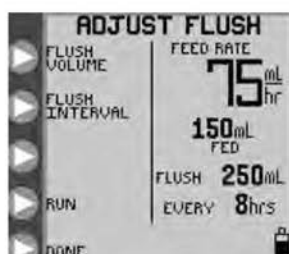
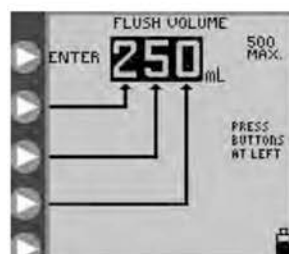
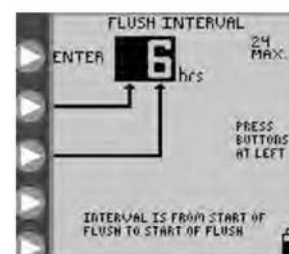

Figure 12A. **ADJUST FLUSH** menu, continuous mode.
Figure 12B. Setting the Flush Volume.
Figure 12C. Setting the Flush Time Interval.
For **CONTINUOUS** feeding mode with a feed & flush set loaded, the opening menu will appear as shown in Figure 7B. Press ► **ADJUST FLUSH** in Figure 7B to program the flushing parameters from the **ADJUST FLUSH** screen, shown in Figure 12A.
Press ► **FLUSH VOLUME** in Figure 12A to define the volume per flush occurrence. Press the ► buttons in Figure 12B to program the flush volume from 10 to 500 in increments of 1 mL. Press ► **ENTER** (top button) to exit the menu.
Press ► **FLUSH INTERVAL** in Figure 12A to define the time interval between starts of flushing. Press the ► buttons in Figure 12C to program the time interval from 1 to 24 hours in increments of 1 hour. Press ► **ENTER** (top button) to exit the menu.
- **ADJUST FLUSH** screens (Figure 12A, 14A)
During the **RUNNING** mode, the pump can be diverted to immediately perform a flush (flush on demand) by pressing ▶ **FLUSH NOW** in the **RUNNING** menu, input a desired flush volume, then press ▶ **ENTER**. See Figure 15A. When ▶ **FLUSH NOW** is pressed, the screen will prompt for the volume to be immediately flushed, and will show the previously programmed flush volume as default but may be adjusted to the users desired volume. The screen will appear as the standard flush input screen as shown in Figure 12B (or 14B). Setting the **FLUSH NOW** flushing volume is temporary and will not change the main/periodic flushing volume previously programmed. If ▶ **FLUSH NOW** is pressed by accident; the user may either press the cancel button or allow the screen to return to the **RUNNING** screen after 10 seconds, if there is no input for the flush volume.